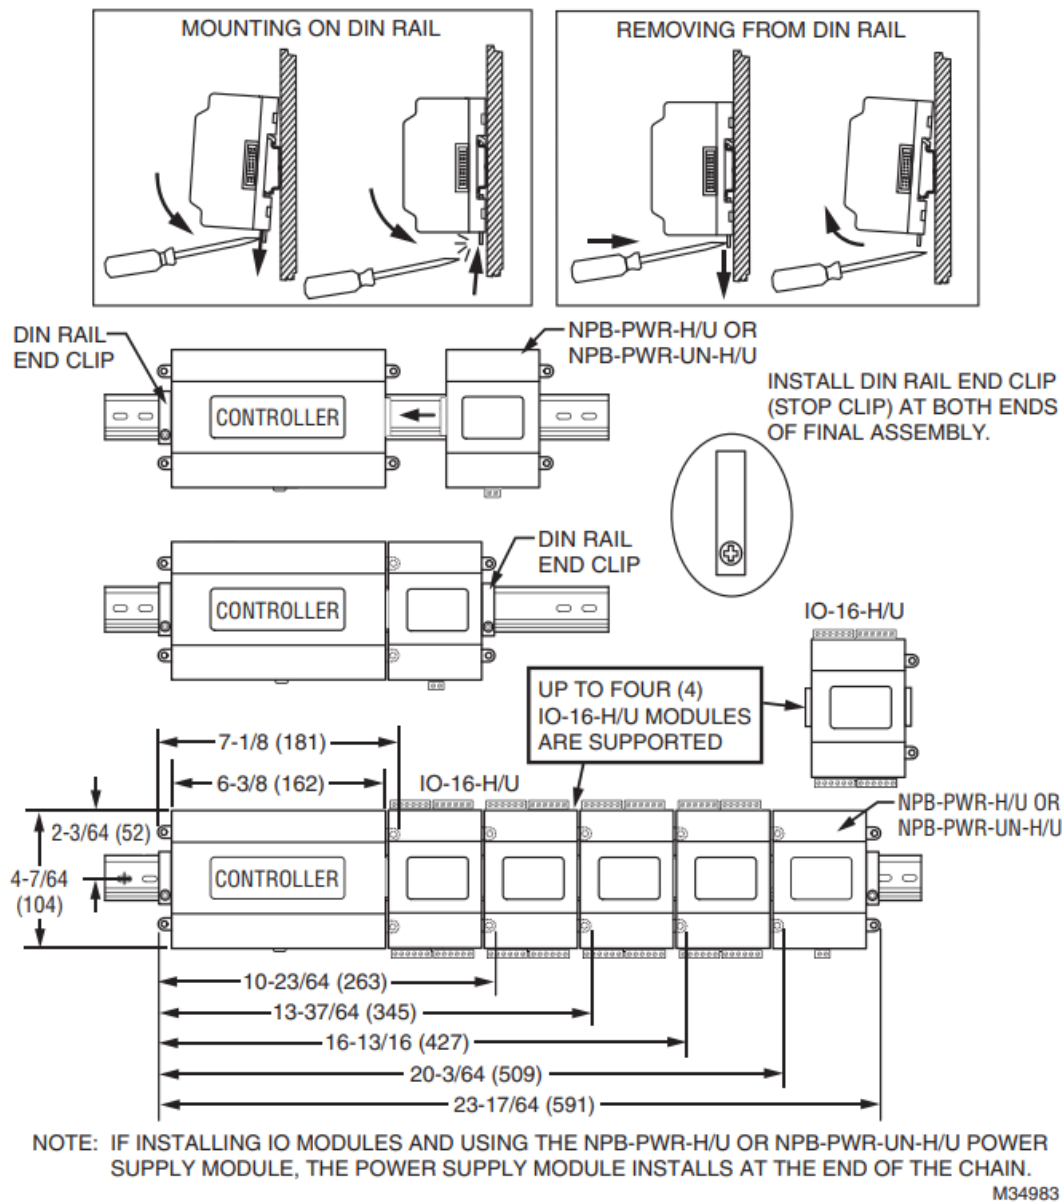

Fig. 1. WEB and CP 300E or 600E Series controller and accessory mounting details.
2. Position the controller on the rail, tilting to hook DIN rail tabs over one edge of the DIN rail (Fig. 1).
This also prevents the assembly from sliding on the DIN rail. See Fig. 1.